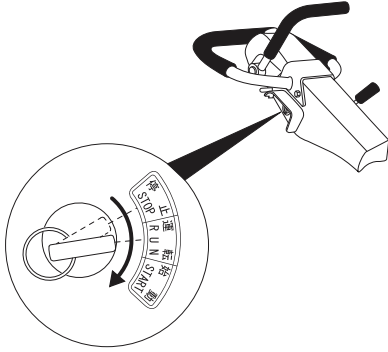

Figure 43. Ignition Switch (RUN)
- Turn the key **clockwise** to the **RUN** position (Figure 43). The buzzer will begin to sound.